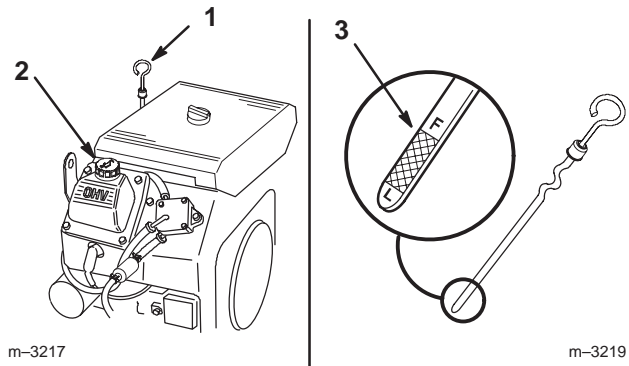

Figure 33
2. Clean around the oil dipstick (Fig. 33) so dirt cannot fall into the filler hole and damage the engine.
3. Pull the oil dipstick and wipe the metal end clean (Fig. 33).
4. Slide the oil dipstick fully into the filler tube. Pull the dipstick out and look at the metal end (Fig. 33). If oil level is low, slowly pour only enough oil into the filler tube to raise the level to the full mark.
5. Slowly pour approximately 80% of the specified oil, on page 30, into the filler cap (Fig. 33). Now check the oil level; refer to Checking Oil Level, page 30. Slowly add additional oil to bring it to the full mark.